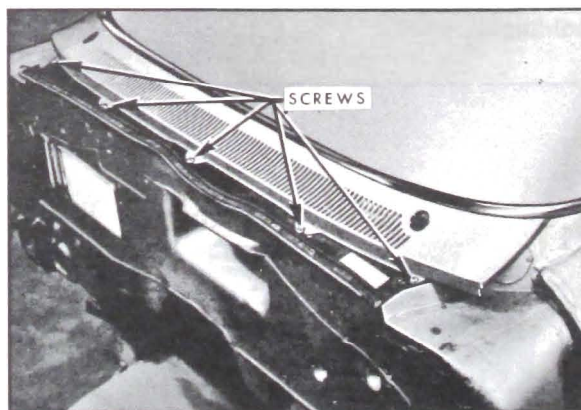

Figure 1-4—Air Intake Grille
3. Remove air intake grille attaching screws (Figure 1-4).